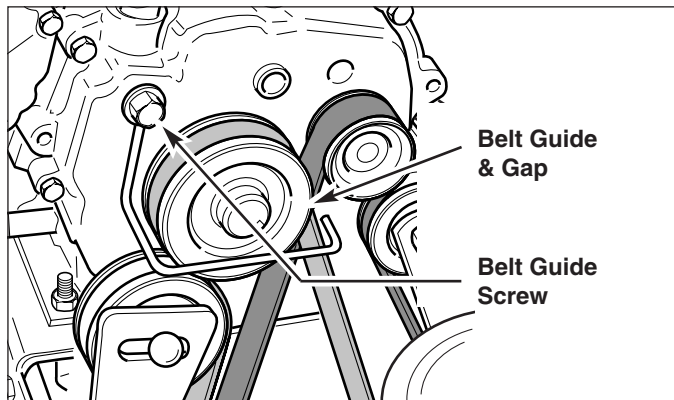

Figure 28. Auger Belt Guide Adjustment
1. With the auger control still fully depressed, adjust the auger belt guide so that there is a 1/64" gap (1/32" Maximum) between the end of the guide and the belt (Figure 28), making certain the guide is NOT putting pressure on the belt.
2. Making certain the auger belt guide does NOT move while doing so, tighten the auger belt guide screw (Figure 28) to secure the guide.
3. Check the adjustment on the auger belt guide (Figure 28) to make certain that the gap between the belt and the belt guide is correct.
4. Loosen auger belt guide and slide belt off engine pulley and away from idler pulley. (See Figure 28).